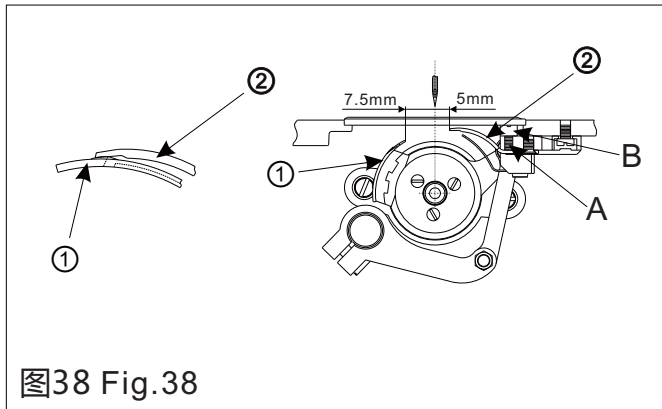

图38 Fig.38
2) Set the solenoid active, turn the trimming cam ① until the cam is touched with the roller of the cam lever ②, then fix the cam.
3) Set the solenoid inactive and make the lever ② restore to the original position, there should be a 0.5~1.0mm clearance between the cam ① and the roller of the cam lever ②.
6.刀片的调整 (图38)